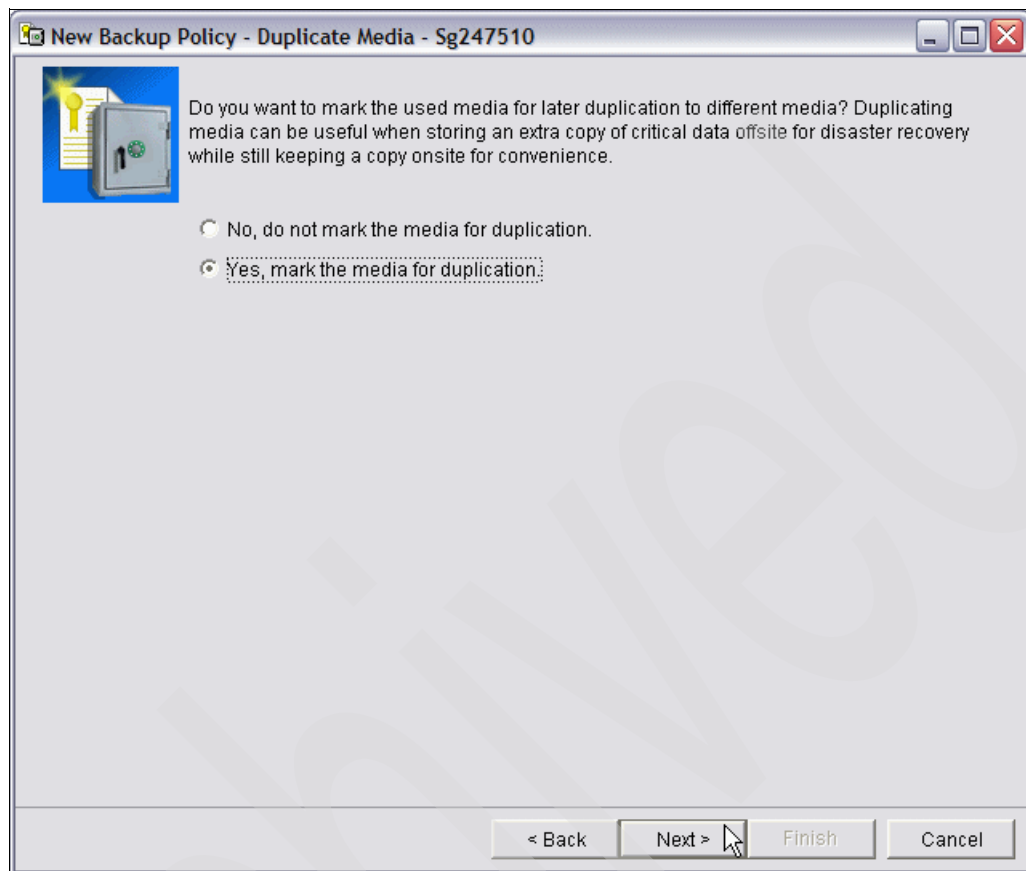

Figure 6-63 New Backup Policy - Duplicate Media
21. The next window (Figure 6-63) asks us if we want to duplicate our data or not. Read the text on the Duplicate Media window.